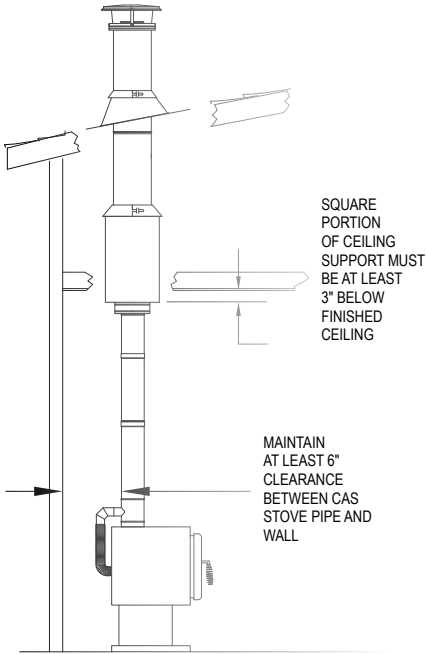

Figure 1
These CAS installation instructions are intended to be used with the full installation instructions for DuraPlus HTC. Except as described in these installation instructions, always follow the DuraPlus HTC installation instructions for a safe installation. These CAS installation instructions describe how to connect the CAS system to DuraPlus HTC chimney systems, and how to connect the CAS system to the stove. In order for the CAS system to be function properly, the system needs access to outside air. The outside air is intended to come through the ventilated attic space or flashing (through-the-ceiling installations, **Fig 1 & 2**) or through the chase (through-the-wall installations, **Fig 3**).
Step 2. Install CAS Ceiling Support. Cut and frame an opening for the CAS Ceiling Support. Refer to **Table 1** for proper framing dimensions. Install the CAS Ceiling Support into the framed opening, and ensure the Ceiling Support is level. The square portion of the Ceiling Support must be a minimum of 2" below the finished ceiling (**Fig 1, 2**). Secure the Ceiling Support with at least (2) 1-1/2" wood screws per side; minimum of (8) wood screws total.